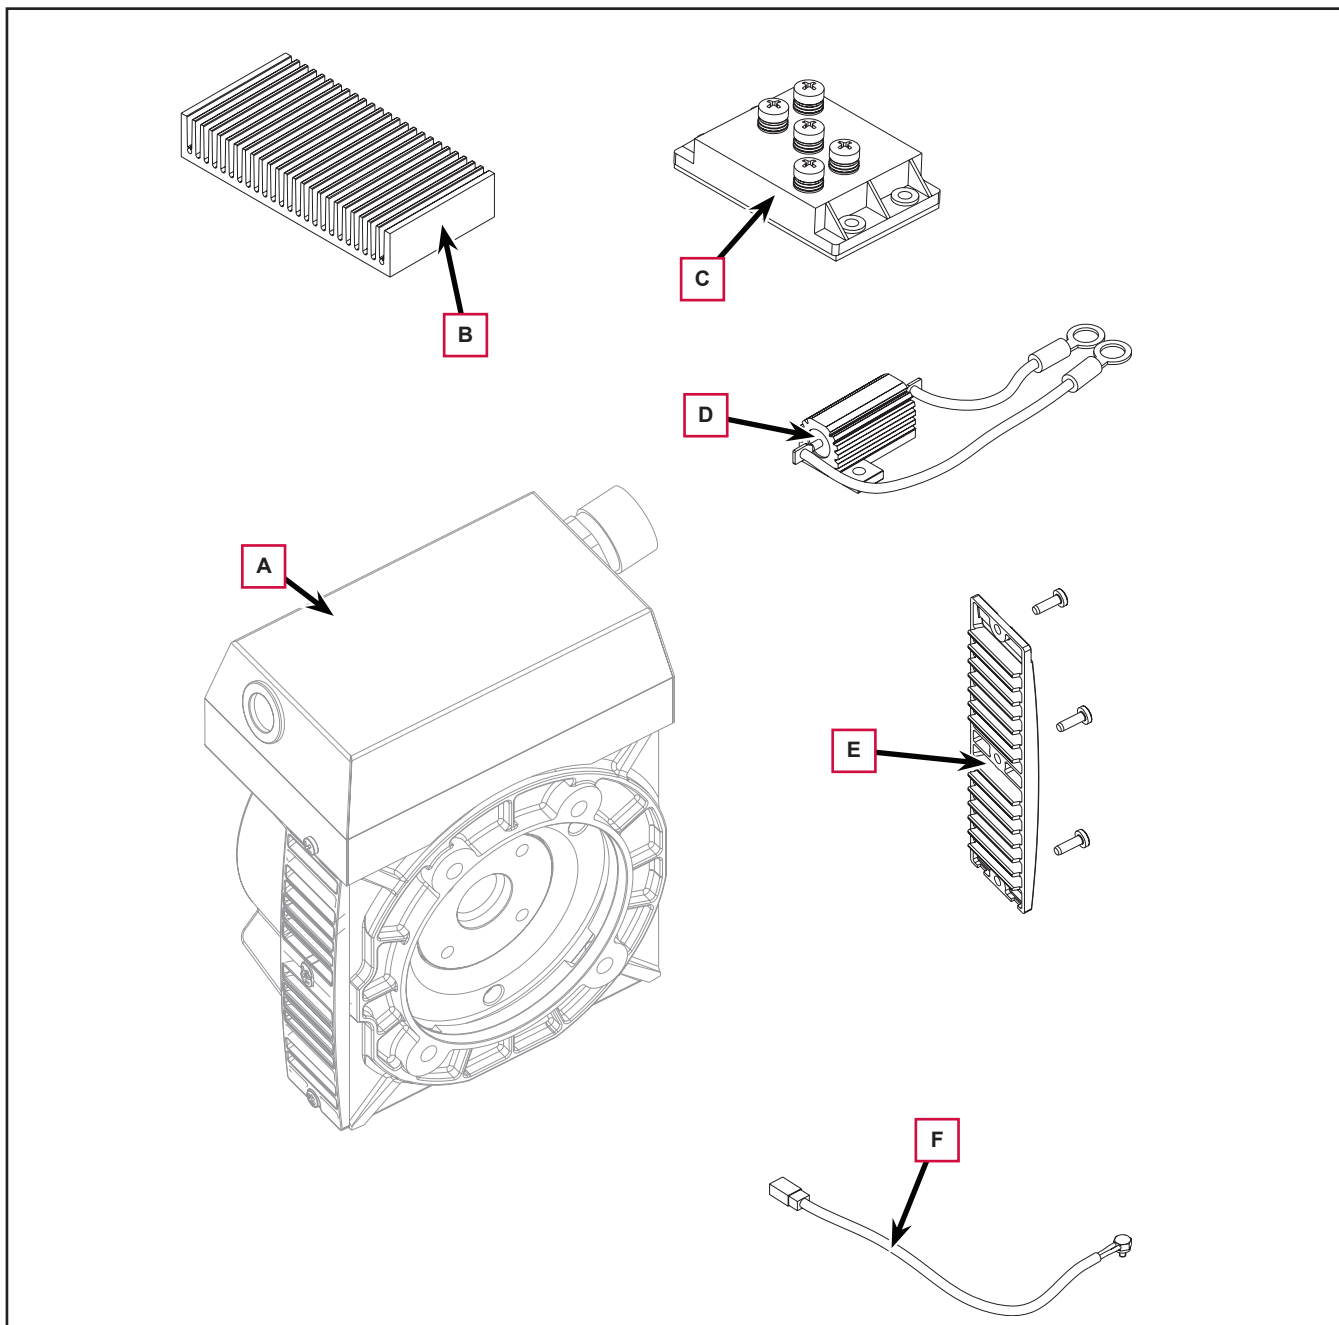

Figure 11
1. Alternator complete (A, Figure 11).
2. Heat sink (B).
3. Bridge rectifier (C)
4. Resistor (D).
5. Grid side (E).
6. Temperature sensor (F).